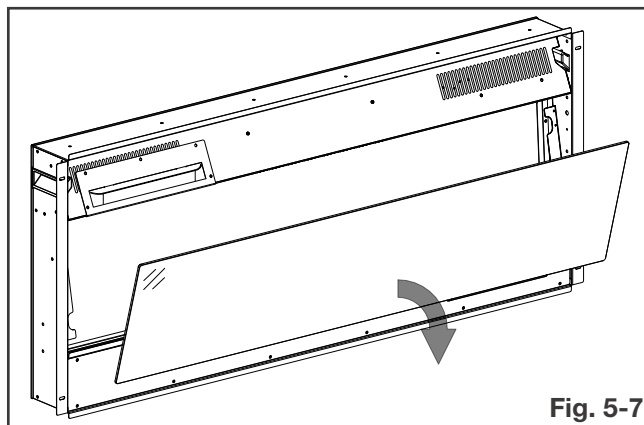

Fig. 5-7
- Remove the glass and place it face-down on a soft, non-abrasive surface (**Fig. 5-7**).